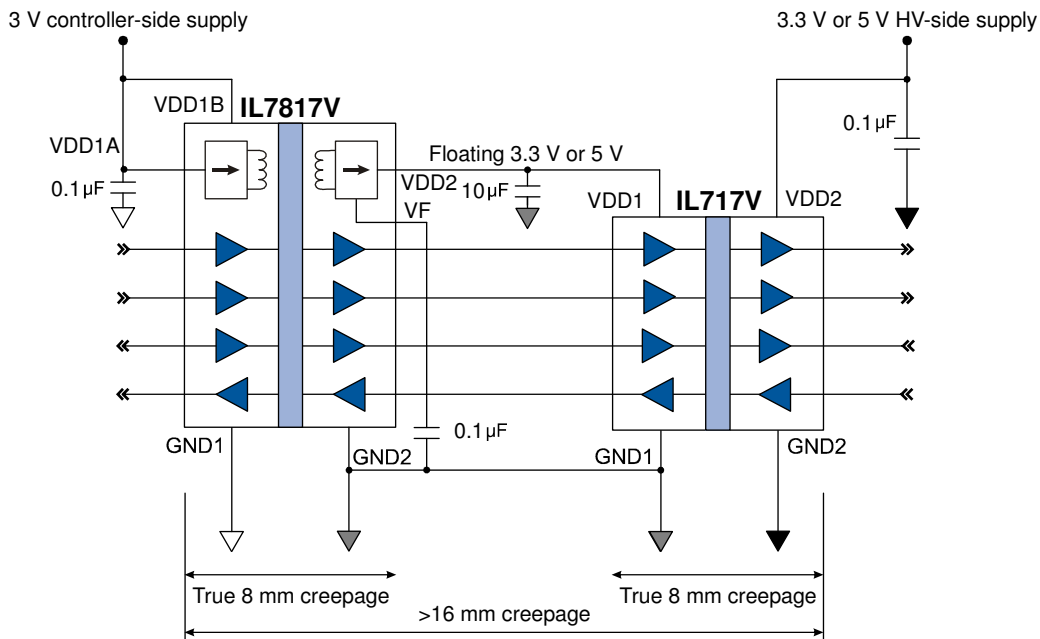

Figure 23. 16 mm creepage with two isolators.
- Added asynchronous parallel application circuit (Fig. 19, p. 18) and 16 mm creepage (Fig. 23, p. 22).